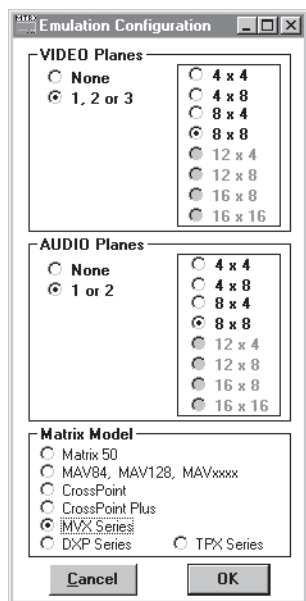

Figure 4-15 — Emulation mode configuration
5. Select “1, 2, or 3” as the number of video boards, “1 or 2” as the number of audio boards, and “MVX Series” as the matrix model for which you are preparing a configuration; and click OK (figure 4-15).